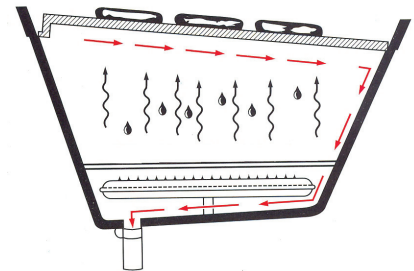

Fig. 10
**TO COOK:** The grids may be used in the standard level or slope position (Fig. 10). When grilling lean meats, use the standard level position. The concave channels of the grids will cradle some of the food's juices to lubricate the grids to reduce sticking, and to baste the food while grilling. For foods that generate a lot of juices, use the slope position. Excess juices will run down the concave channels and drain away to the drip pan to help prevent excessive flare-ups.